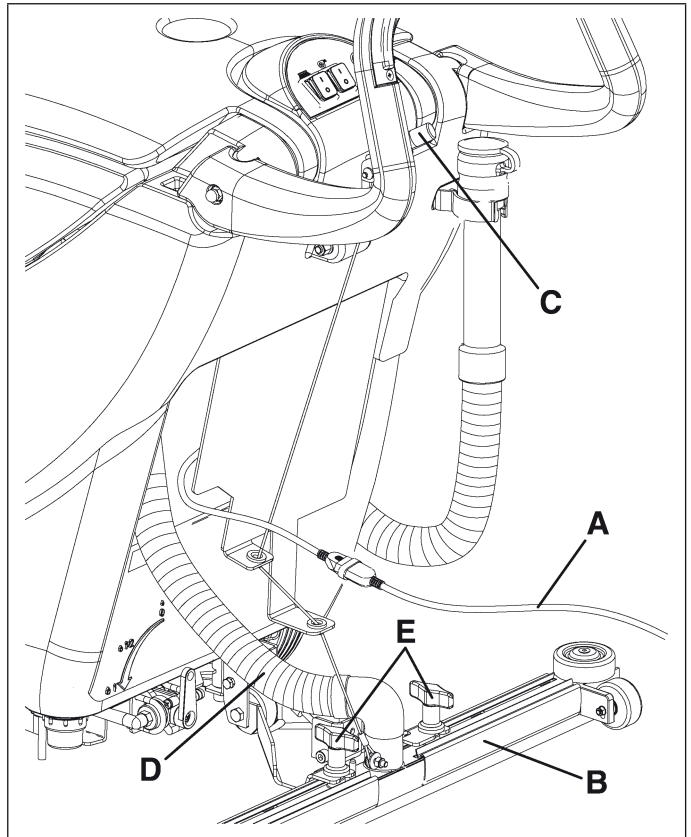

Figure 16
1. Make sure that the power supply cable (A, Fig. 16) is disconnected from the electrical mains.
2. Lower the squeegee (B, Fig. 16) by means of the lever (C).
3. Disconnect the vacuum hose (D, Fig. 16) from the squeegee.
4. Loosen the squeegee knobs (F, Fig. 16) and remove the squeegee (D).
4. Reinstall the squeegee (B, Fig. 16) and screw down the squeegee knobs (E).
5. Connect the vacuum hose (D, Fig. 16) to the squeegee (B).